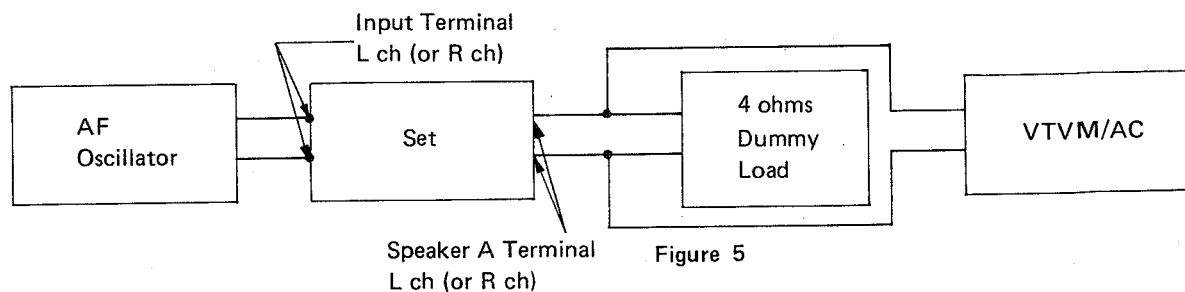

Figure 5
- (1) Connect test equipments as shown in Figure 5.
- (2) Short the input terminal with short pin plugs.
- (3) Adjust the SVR 501 (L ch), and SVR 502 ( R ch) as the VTVM indicates 13.2mV DC.
- (1) Set the meter range selector of peak-power-indicator to  $\times 0.1$  (■) position.
- (2) Set the speaker selector knob to SPEAKER A position.
- (3) Connect test equipment as shown in Figure 5.
- (4) Control the output of AF oscillator as the VTVM indicates 4.47V AC.
- (5) Adjust the indication of peak-power-indicator to be 0 db(5W) with SVR701 (L ch) and SVR702 (R ch).